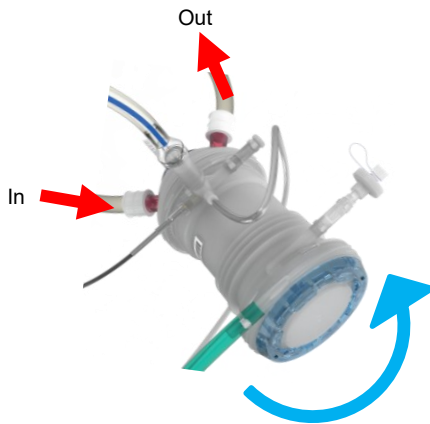

Figure 26 Tilt the oxygenator (blue arrow) so that the outlet connector (red arrow) is at the highest point, allowing water to move out from the oxygenator.
- Remove the oxygenator on the HA side (Figure 9, item 18) from the holder (Figure 8, item 37) and tilt it so the water outlet connector, identified by the air bubbles moving away from the oxygenator, is positioned above the water inlet connector (see Figure 26). This allows any trapped air to rise into the thermo tubing. Avoid kinking the thermo tubing, as this will restrict flow. Avoid straining the temperature sensor cable. If needed, temporarily remove the temperature sensor from the oxygenator to make tilting easier.